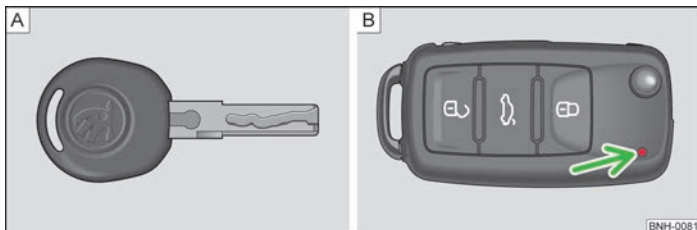
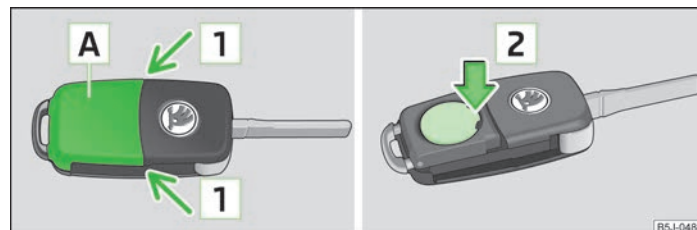

Fig. 8 Key without remote control/key with remote control (remote control key)
Fig. 9 Remote control key: Remove cover/remove battery
Two keys are provided with the vehicle. Depending on the equipment, your vehicle can be equipped with keys without radio remote control » Fig. 8 - [A] or with radio remote control » Fig. 8 - [B].
- Each remote control key contains a battery that is located under the cover [A] » Fig. 9. The battery needs replacing if red warning light » Fig. 8 on page 25 - [B] does not go on when you press a button on the remote control key. We recommend that you ask a ŠKODA Service Partner to replace the key battery. However, if you would like to replace the discharged battery yourself proceed as follows.
- Press off the battery cover with your thumb or using a flat screwdriver in the region of arrows [1] » Fig. 9.